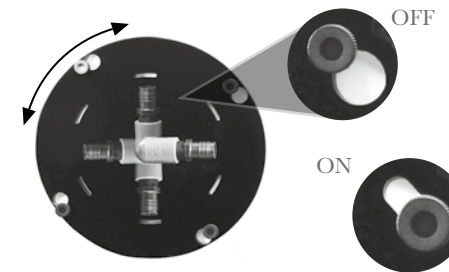

Figure 2
We recommend operating the **Tropic Marin® Bio-Actif Reactor 5000** at a flow rate of approx. 1500 l/h (using a SICCE SYNCHRA SILENT 1.5*, for example). The inlet of the filter ❷ can be connected via a 1/2[“] female thread on the cover ❶ to PVC tubing*. A hose barb ❿ for a 19-mm (3/4[“]) hose* to be screwed into the inlet ❷ is enclosed. The cover ❶ can be rotated in 90° steps to enable proper alignment of the inlet ❷ (see figure 2).
To remove the cover ❶, it suffices to loosen the screws ❸. Rotate the cover until it stops to the left-hand side, so that the screws are positioned in the centre of the round openings. The cover can then be raised vertically (see figure 2).